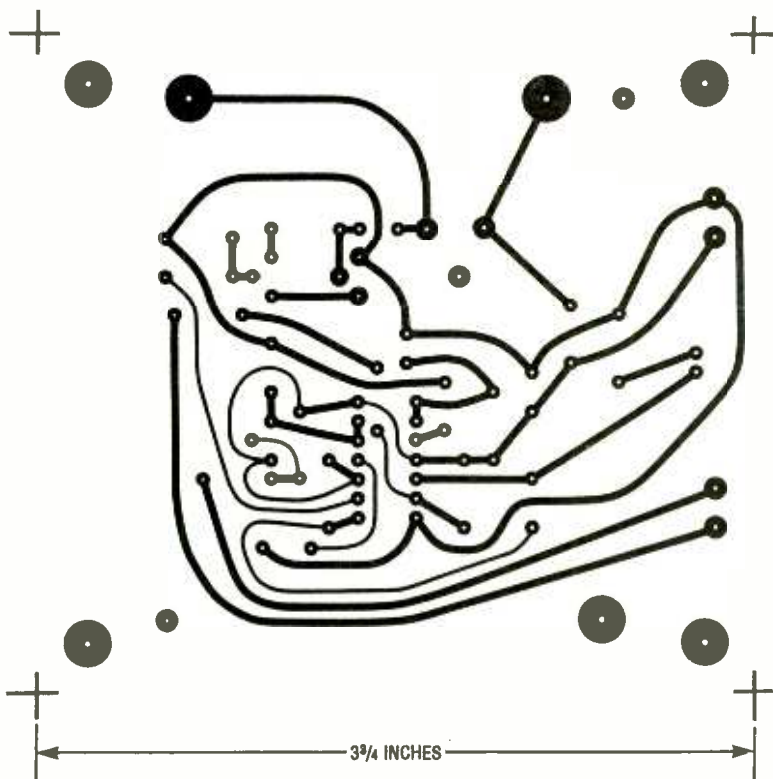
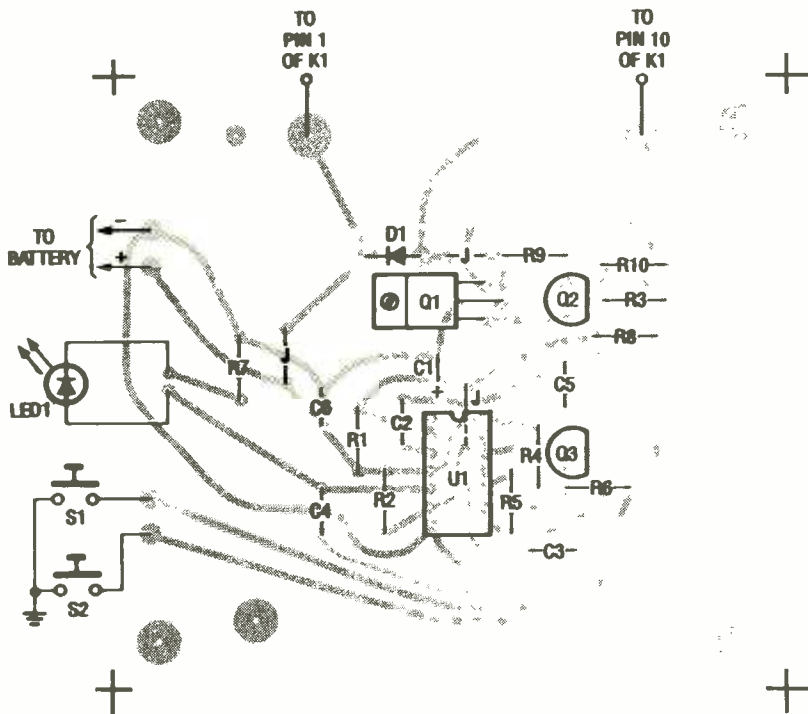

Fig. 3. The timer portion of the kill switch was assembled on a printed-circuit board (shown here), measuring about 3 3/4 by 3 7/16 inches full-scale.
Fig. 4. When assembling the printed-circuit board, it is necessary to use low-profile parts so that the circuit board can be fitted inside the relay socket.
**Construction.** The timer portion of the circuit was built on a printed-circuit board, measuring about 3 3/4 by 3 7/16 inches. A full-scale foil template of that circuit-board layout is shown in Fig. 3, with the corresponding parts placement diagram shown in Fig. 4. The low profile of the parts allowed the circuit board to be laid out in such a way as to fit inside the relay socket.